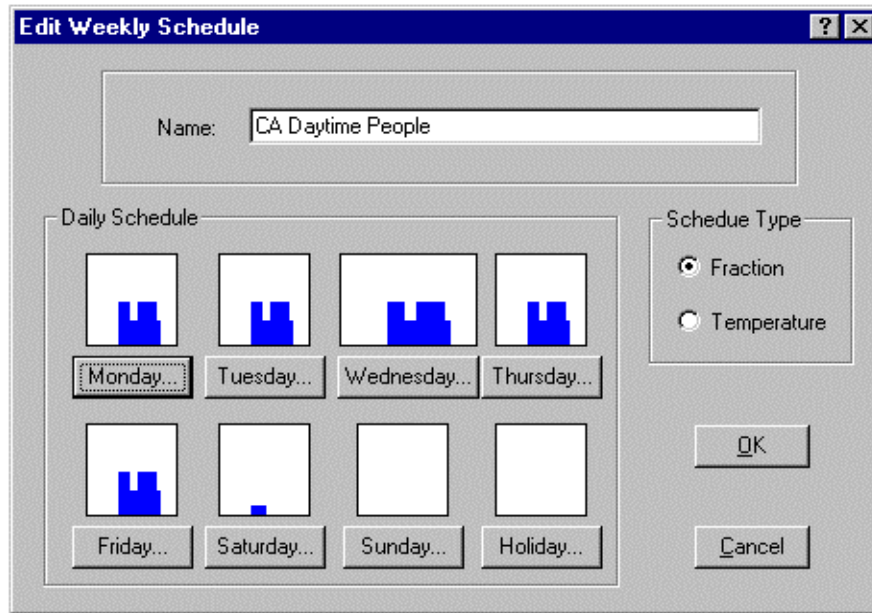

Figure 3: Graph showing a weekly schedule
- The Schedule Libraries are used to set the weekly and yearly schedules associated with occupants, lights, equipment, infiltration, DHW, processes, heating, cooling, and fans. Schedules are used by the NR Loads and Win/DOE noncompliance calculations. (For Title 24 compliance, Win/DOE uses internally fixed schedules. These schedules are set by the California Energy Commission and cannot be changed by the user.) With the Schedule Editor you can display and modify schedules graphically (Figures 3 and 4).